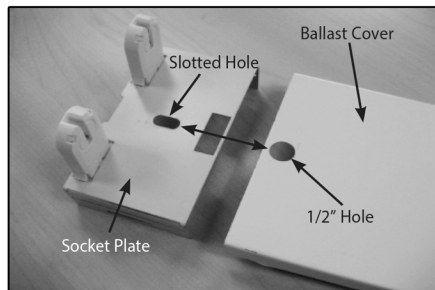
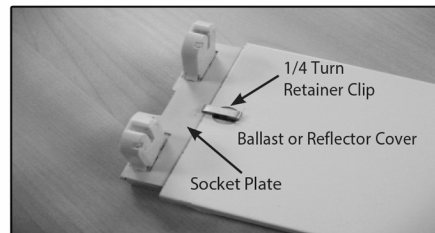

Figure 3. Align the slotted hole with the 1/2" hole on the Ballast Cover.
Figure 4. Connecting the end of the Socket Plate to the Ballast Cover using the Cover Clip.
11. If using Ballast Covers - Align the slotted hole on the left-side Socket Plate to the 1/2" hole in the on of the Ballast Covers. See Figure 3. Insert one (1) Cover Clip through both the Ballast Cover and Socket Plate hole, then rotate the clip one quarter turn to lock in place. See Figure 4. Attach center of Ballast Cover to Center Socket Plate using another Cover Clip. Repeat on the second right side Socket Plate.